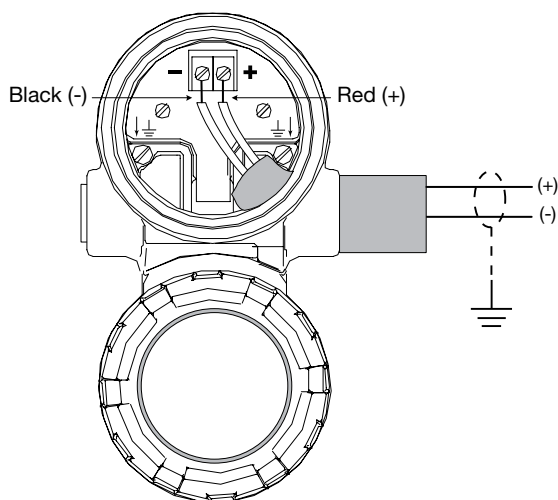

Figure 1
3. Connect an earth ground to the nearest green ground screw. See Figure 1. Use a minimum 18 AWG rated up to 85 °C.